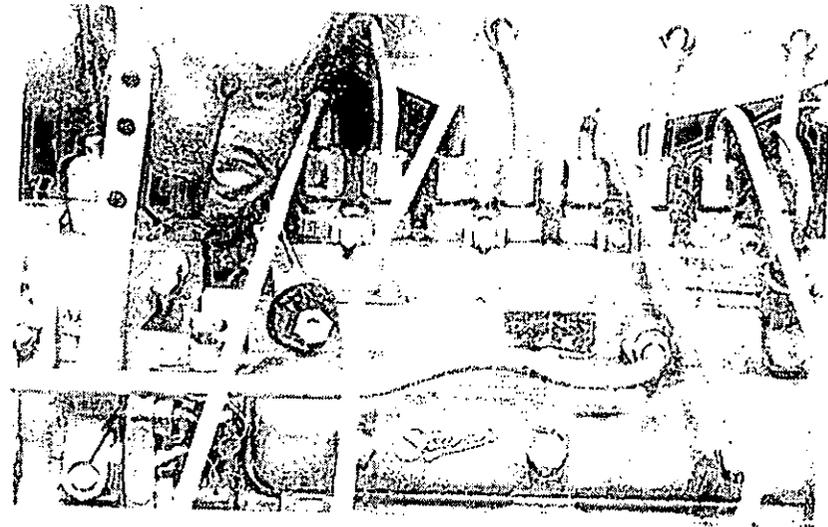

Fig. 20 CAV in line fuel injection pump vent point
- 2 Loosen the vent plug on the right side of the fuel injection pump (see fig. 20) by two or three turns.